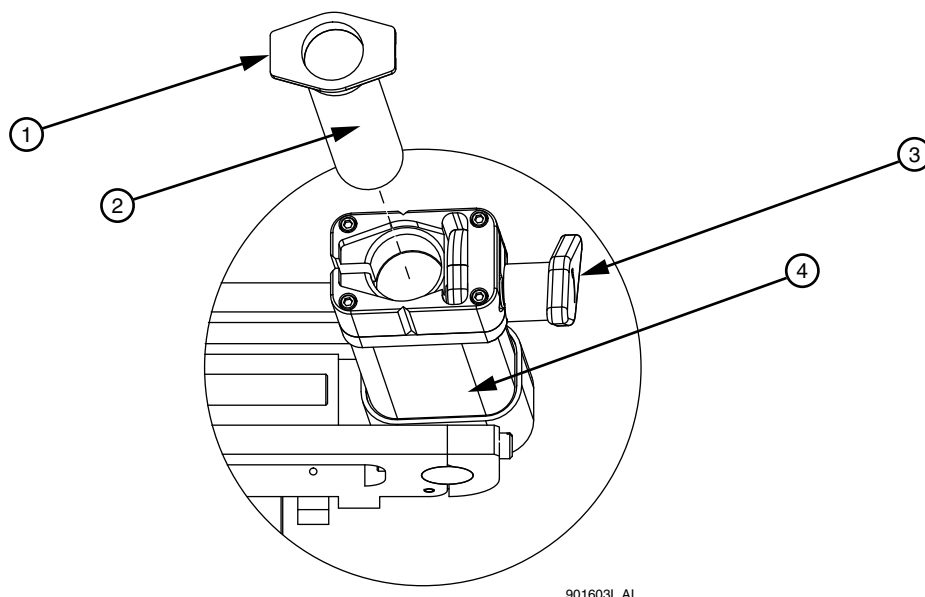

Figure 3.49 Removing/Replacing the Gel Cartridge - Continued
4. Grasp the wings of the gel cartridge/gel pump plug and pull it out of the barrel (Figure 3.49).